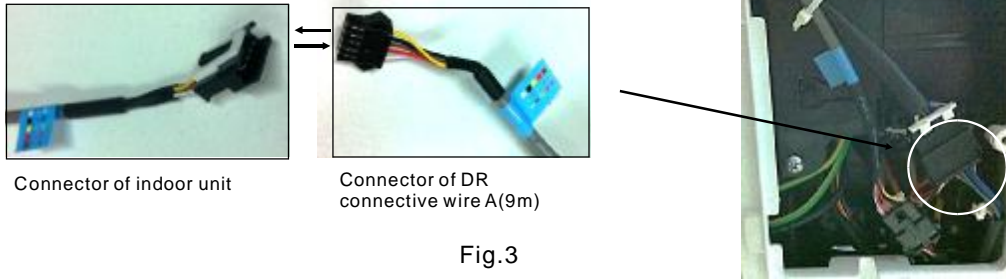

Fig.3
2. Remove cover of the electrical control box of indoor unit by loosening the screw. Inside there is a connector which can be connected with the DR connective wire A(9m) , as shown in Fig.3.